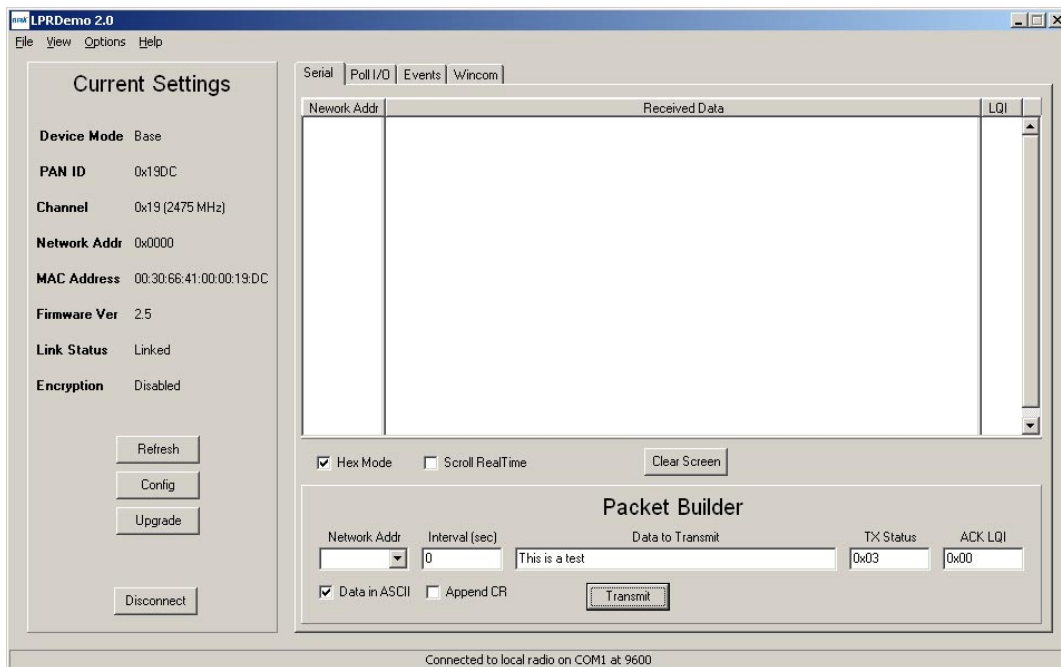

Figure 5.3.5
7. At this point the program will collect and display data from the Base under *Current Settings* on the left side of the main window, as shown in Figure 5.3.5.